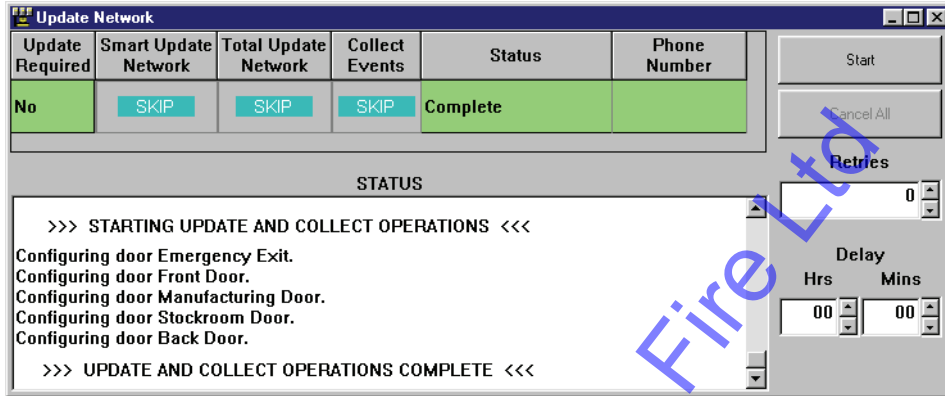

Figure 2-46: Successful Network Update
- Once the connection is made, the progress of the update may be viewed through the Status windows. The Status windows will indicate when the update is complete (see Figure 2-46 on page 38 of this section).